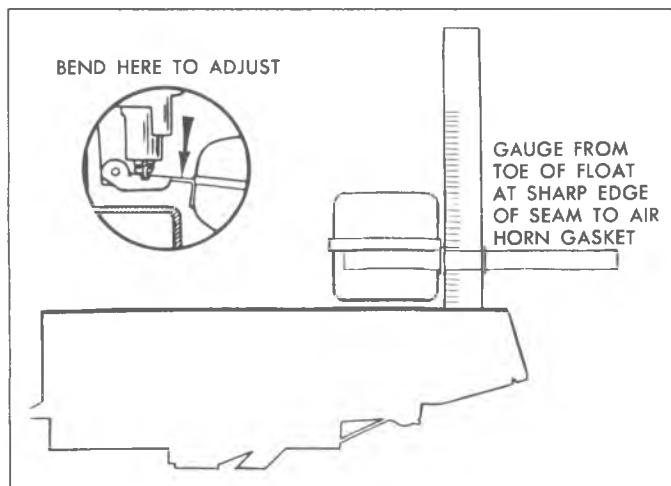

Fig. G7--Float Level Adjustment (Brass)
- the float pontoon. To adjust, bend the float arm at rear, as shown in inset (Fig. G7).